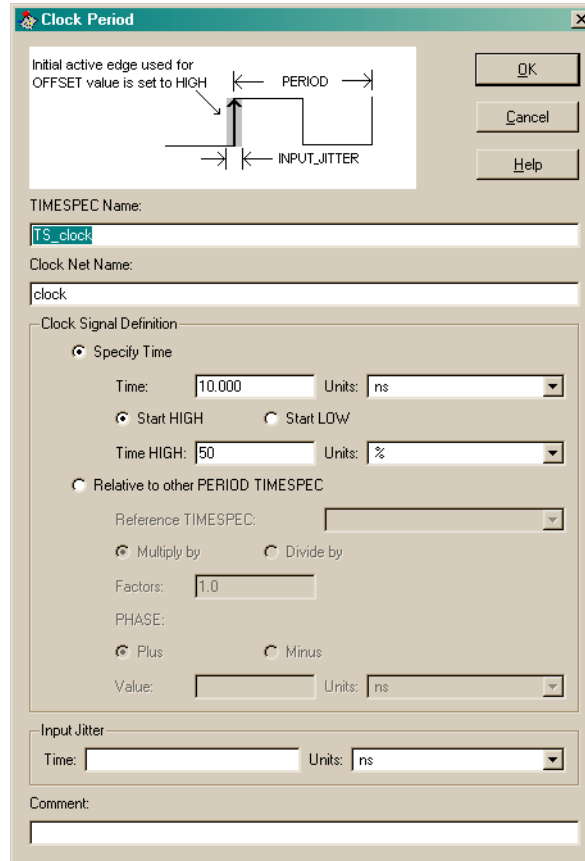

Figure 6-9: Specify Period Constraint
7. With the **Global** tab selected right-click on the **Period** entry for the Clock signal. The Clock Period dialog box will appear. Enter a period of 10 ns. as shown in Figure 6-9.